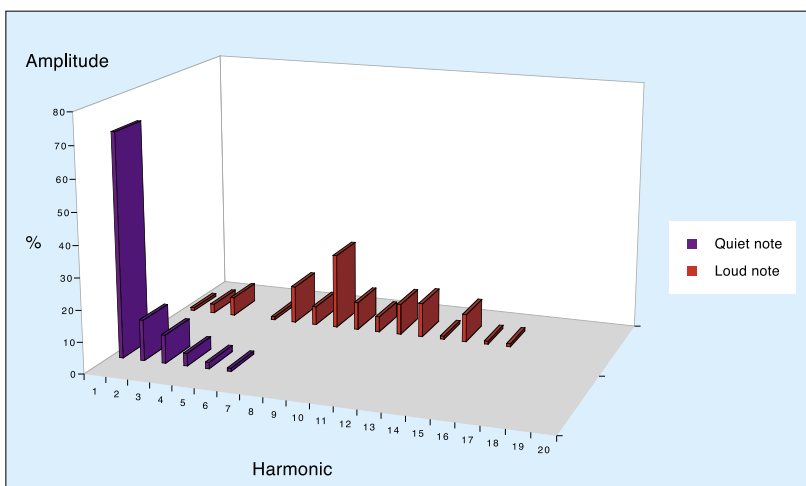

Figure 8: The harmonic structures of the same note played quietly and loudly on the same instrument.
► present in a sound, we also need to know the relative strengths if we are to analyse and recreate the correct timbre. To illustrate this, I've drawn Figure 8, which shows the relative strengths of the first 20 harmonics of the same note played both quietly and loudly on the same brass instrument. You can learn a lot from this diagram. For example, the fundamental is the dominant harmonic of the quiet note, so you hear this as the perceived note. In contrast, the eighth harmonic is dominant in the over-blown note; you would hear this as a squawk three octaves higher than the fundamental. Also, the quiet note contains just six harmonics, making it 'soft', whereas the loud note includes significant amplitudes of at least 15 harmonics so, quite ignoring the additional loudness of the note, the sound is brighter.